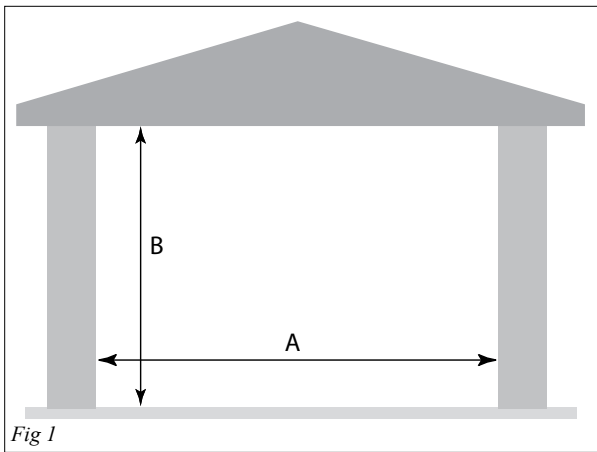

Fig 1
- 1) Decide whether the side channel will be face fit or recess mounted and measure opening (*Refer fig. 1 and 2*).
- 3) Cut side channel to length to measurement B (*fig. 1*).